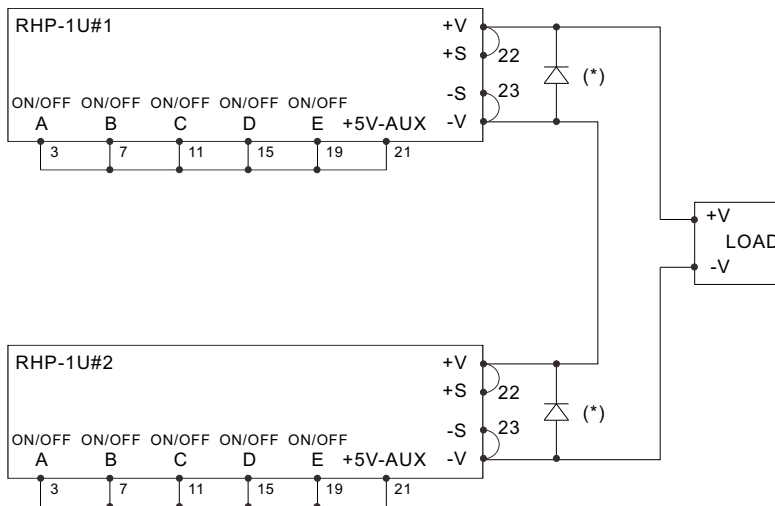

Figure 3-9 Configuration of rack shelf units in series
- ⊙ The rack shelves (RHP-1U□) connected in series should have the identical units. Please refer to Figure 3-9 for wiring configuration.
- ⊙ It is suggested that add external diodes (\*) on the output, shown in Figure 3-9, to prevent reverse voltage. Rating of these diodes should be higher than the total amount of output voltage and current.